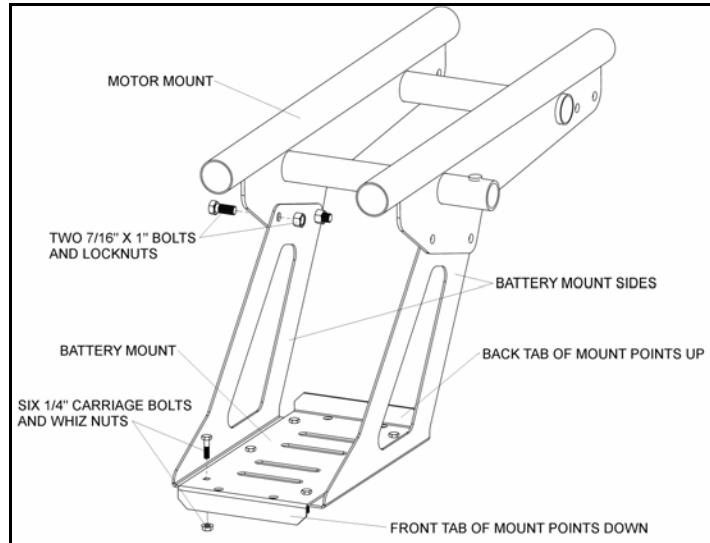

Figure 3.51 Battery Mount
**Note:** Ensure that the front tab of the bottom plate points down and the back tab of the bottom plate points up, as shown in Figure 3.51.